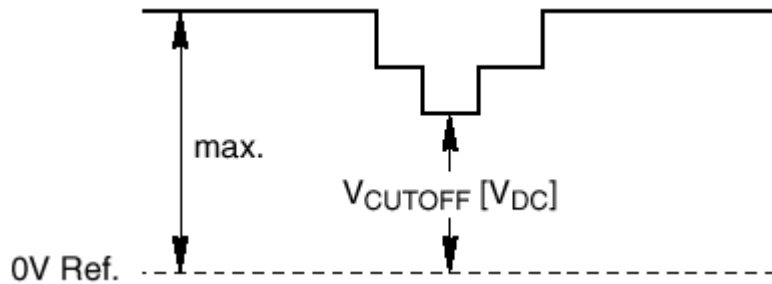

Fig. 2
9. Measure the cut off pulse during first full line after the frame blanking (see Fig. 2). You will see two pulses, one being the cut off pulse and the other being the white drive pulse. Choose the one with the lowest value, this is the cut off pulse.